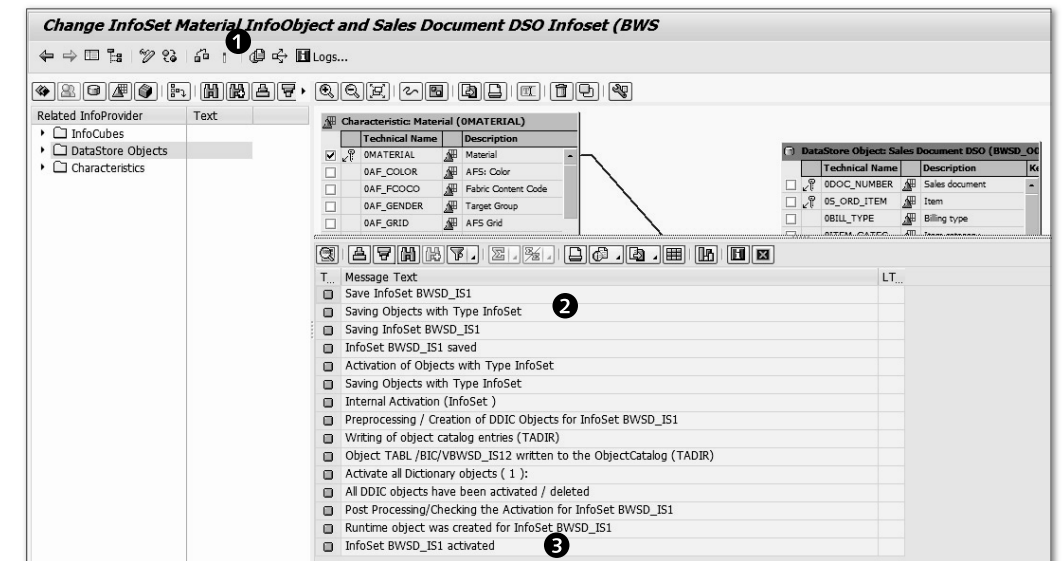

Figure 6.27 Activating the InfoSet
To activate, click on the **ACTIVATE** icon , as shown in ❶ of Figure 6.27. Activation messages are shown in the lower section of the screen in a separate area ❷.